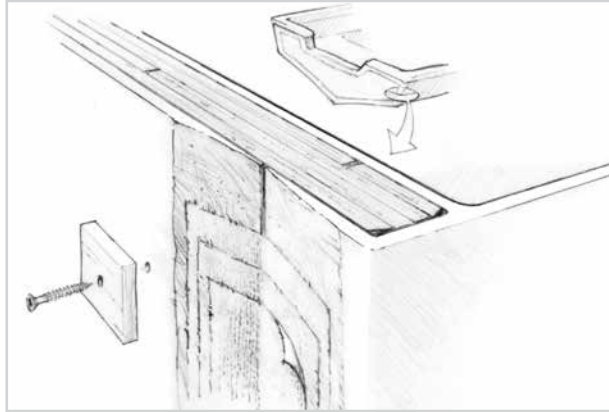

Figure 5-11 Grind a minimum 12-to-1 bevel on both sides of the joint. Laminate a repair patch over the joint to restore skin continuity.
- Grind a minimum 12-to-1 bevel on both sides of the joint. The outside edge of the bevel should be short of the corner, as described earlier in Section 5.3.1—Planning the repair. Laminate a repair patch over the joint to restore skin continuity (Figure 5-11). The bevel will provide a recessed bonding area for the application of fiberglass fabric and allow the patch to be faired flush with the surface. The procedure for patching the joint are the same as repairing damaged skins. Follow the procedure described in Section 4.3. Limit the patch and finishing to the transom side of the corners.